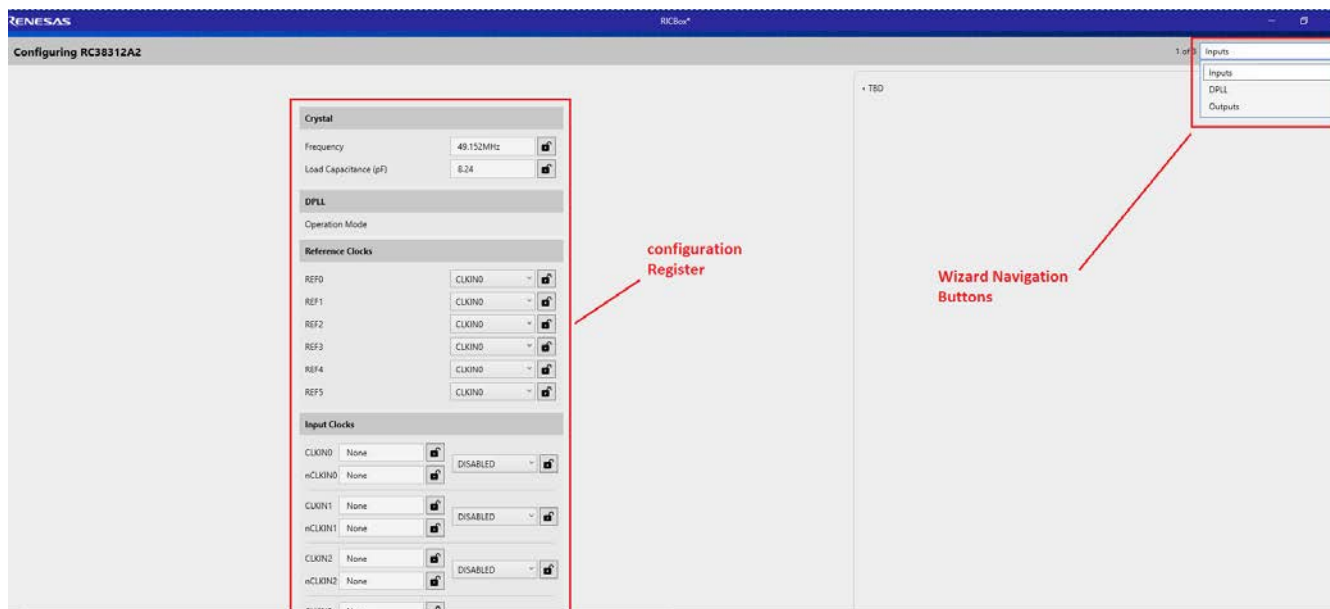

Figure 27. RICBox Wizard Navigation
5. Follow the on-screen wizard (see Figure 27) to configure the device for general evaluation starting from "Inputs", then "DPLL", and finally "Outputs".